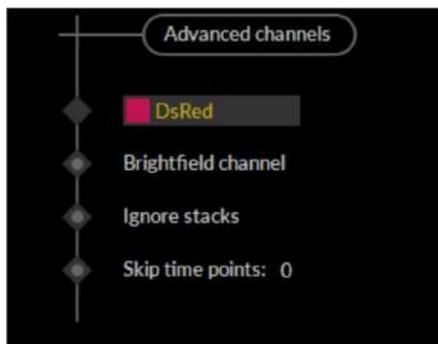

Figure 5.3.6.1 Advanced channels
To access Advanced Channels, shown in Figure 5.3.6.1, enter expert mode by clicking on the grey triangular tab
3. Click the radio button marked Brightfield channel as shown in Figure 5.3.6.1. The button will turn yellow.
3. Click the radio button marked Ignore Stacks shown in Figure 5.3.6.1. The button will turn yellow.
3. Click the radio button marked skip time points shown in Figure 5.3.6.1. The button will turn yellow.